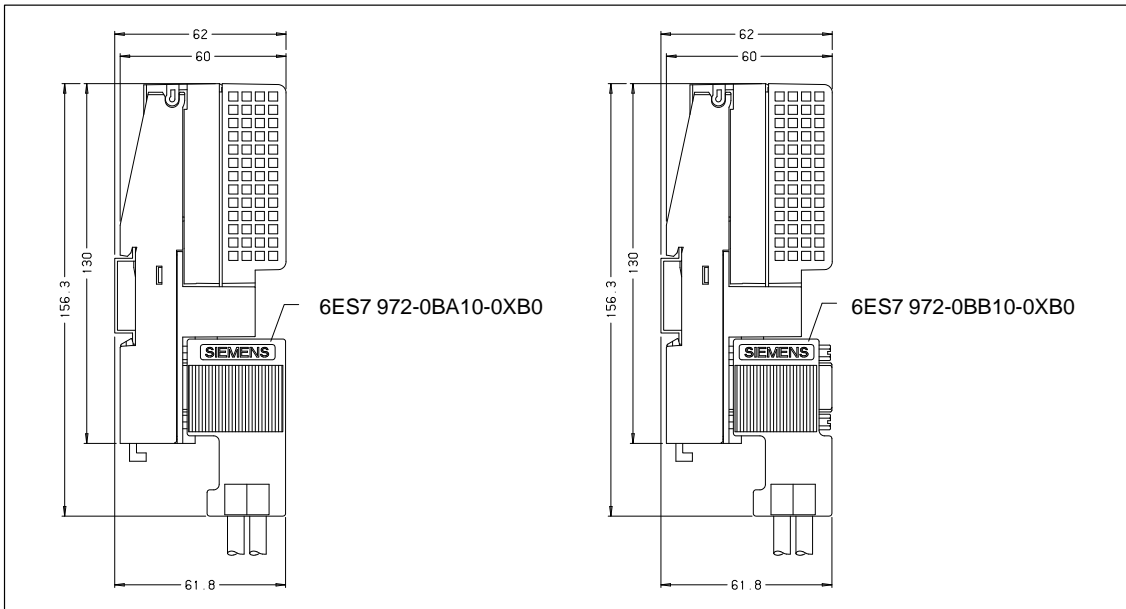

Figure 7-17 Dimensional Drawing: Side Elevation with Bus Connector (6ES7 972-0BA10-0XA0 and 6ES7 972-0BB10-0XA0)
**Dimensional Drawing** Figure 7-17 shows the dimensional drawings (side elevation) of any terminal block with electronics block inserted and a variety of bus connectors.